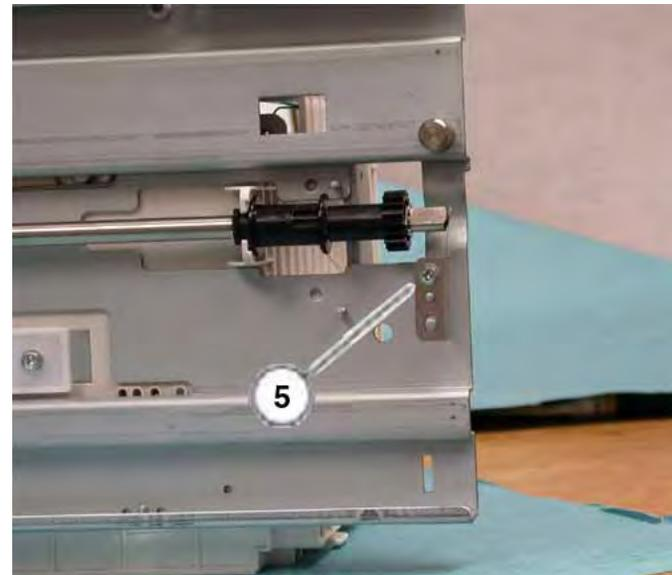

Figure 3 Spring Removal
5. Remove the Screw (1) and Spring (Figure 3).